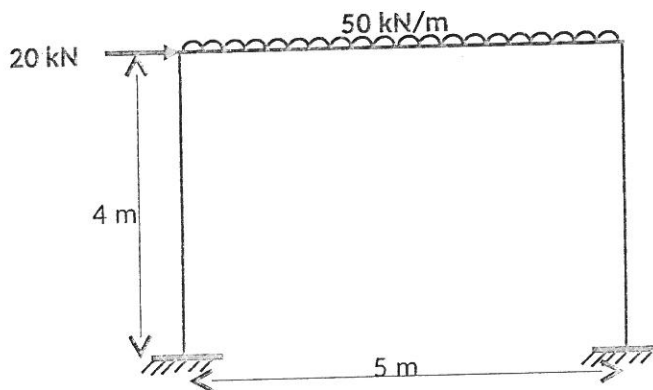

Fig. 6
7. Using moment distribution method, analyse the frame supported and loaded as shown in Fig.6. Draw the bending moment diagram. Assume constant flexural rigidity.